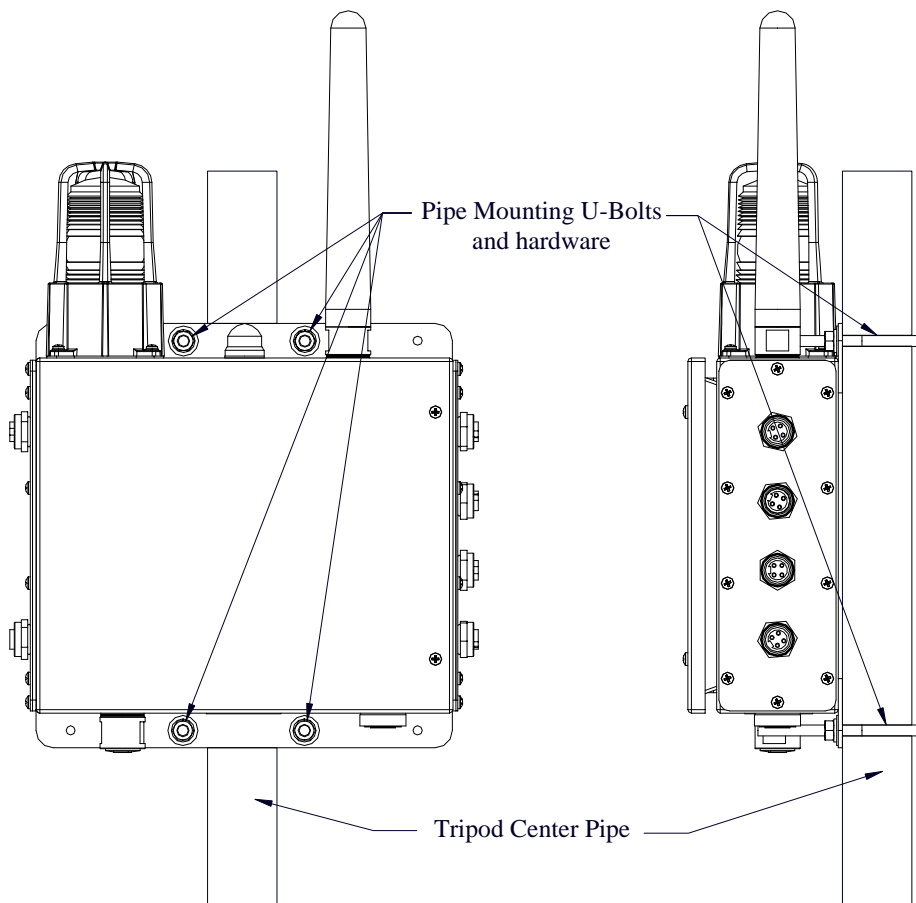

Figure 9 Mount CX on Tripod
2. Mount the CX to the center pipe using the supplied U-bolts in accordance with Figure 9.